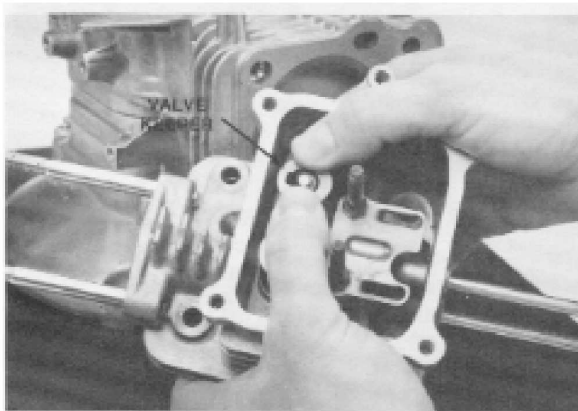

Figure 4-16
1. The valve keepers may be removed by hand. Support the bottom of the valve with your fingers and push down and back with your thumbs on the keeper. See Fig. 4-16.